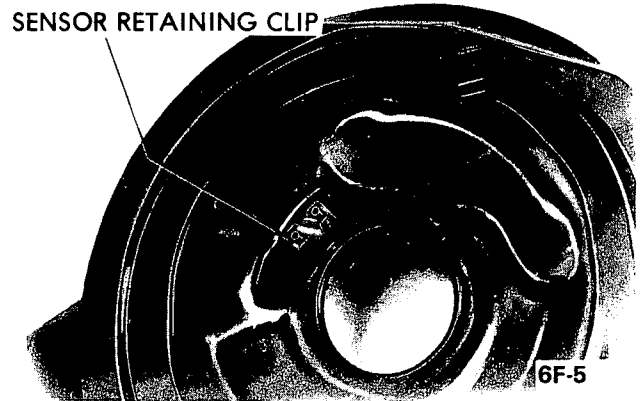

Figure 6F-4 - Replacing Sensor Assembly
1. Remove two sensor retaining clips by prying. See Figure 6F-4.
4. Install sensor and gasket assembly in air cleaner in same position as noted in Step 3. This is to eliminate the possibility of interference with the air filter element. See Figure 6F-4.
5. Install sensor retaining clip. Meanwhile supporting sensor at "B" around the outside rim to prevent damage to the temperature sensing spring. See Figure 6F-3.